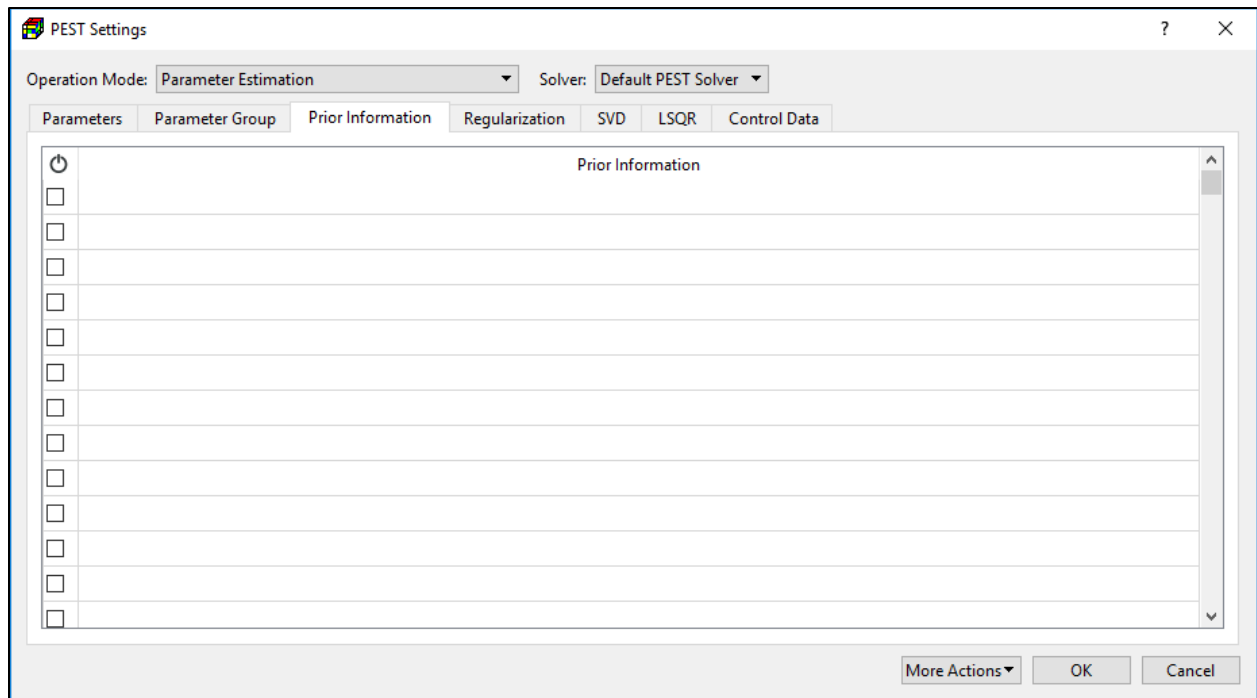

Figure 110. The Prior Information tab of the PEST Settings dialog box
- 6. Prior Information Tab** (Figure 110): It often happens that we have some information concerning the parameters that we wish to optimize, and that we obtained this information independently of the current experiment. This information may be in the form of other unrelated estimates of some or all of the parameters, or of relationships between parameters. It is often useful to include this information in the parameter estimation process because it may lend stability to the process.